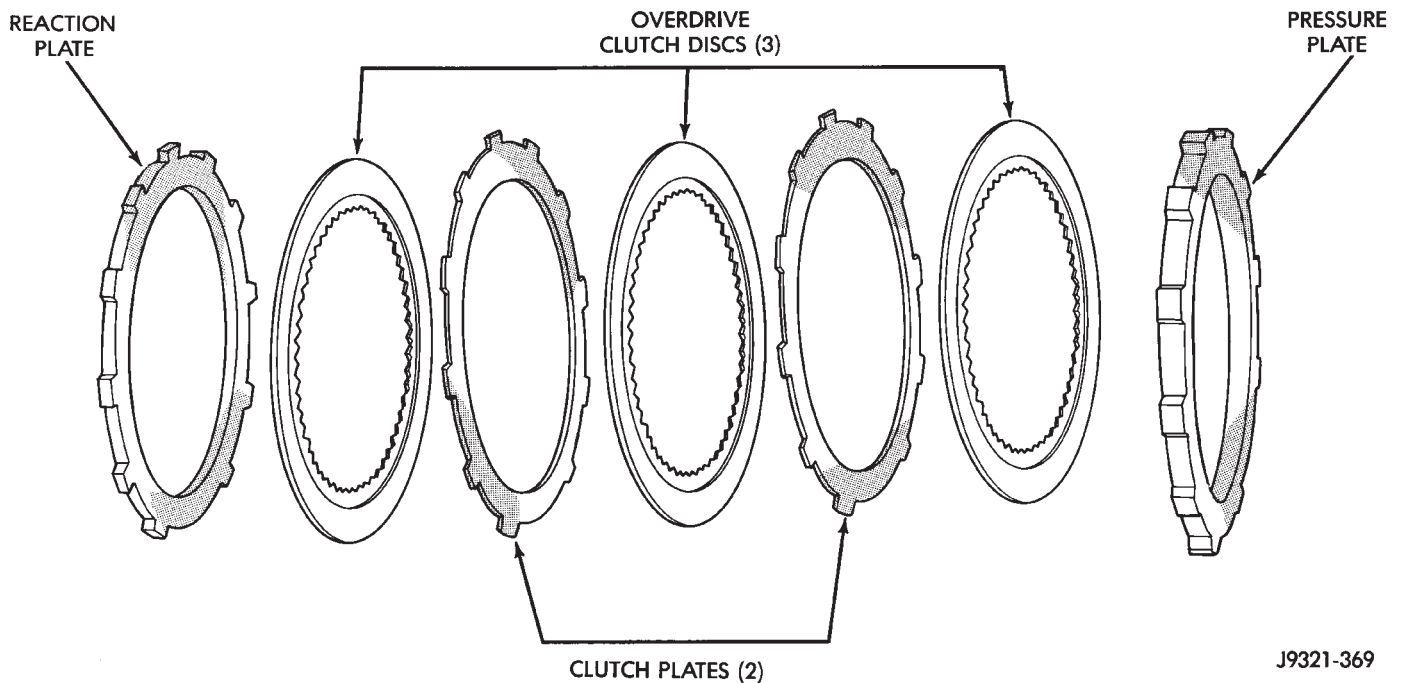

Fig. 246 42RE Overdrive Clutch Components
(3) Assemble overdrive clutch pack (Fig. 246).
(4) Install overdrive clutch reaction plate first.